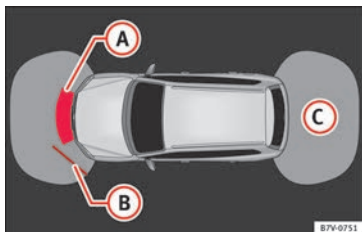
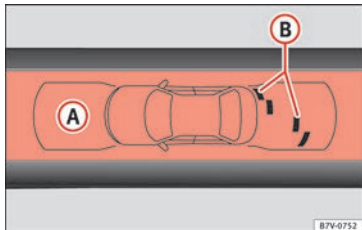

Fig. 209 On-screen OPS display: **A** has detected an obstacle in the collision zone; **B** has detected an obstacle in the segment; **C** zone recorded behind the vehicle.
Fig. 210 On-screen OPS display: **A** has detected an obstacle in the segment; **B** restricted area in front of the vehicle.
The zone in which obstacles are recognised runs to a distance of around 120 cm from the front of the vehicle and up to 60 cm to the side » Fig. 210 (B). Behind the vehicle, the zone analysed reaches a distance of up to 160 cm and around 60 cm to the sides » Fig. 209 (C).
The image displayed represents the supervised zones in several segments. As the vehicle moves closer to an obstacle, the segment moves closer to the vehicle displayed » Fig. 209 (B) and » Fig. 210 (A). When the penultimate segment is displayed, this means that the vehicle has reached the collision zone. **Stop the vehicle!**